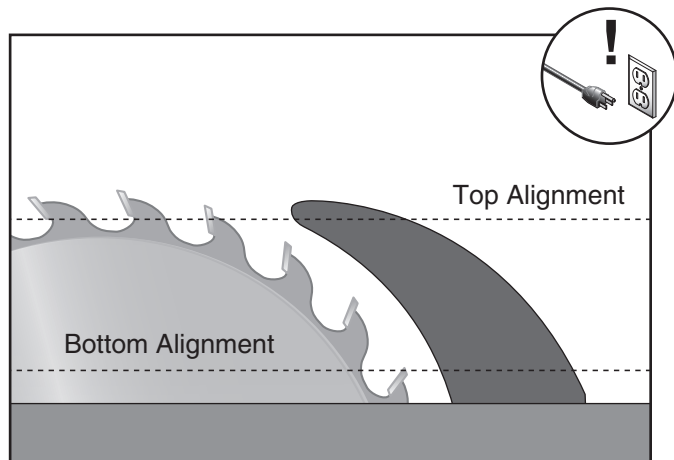

Figure 112. Checking top and bottom riving knife parallelism with blade.
3. Loosen five trunnion mounting bolts shown in **Figure 112**, and nudge trunnion to either left or right depending on where blade is hitting saw.
4. Place straightedge against top and bottom of blade and spreader/riving knife, as shown in **Figure 112**.